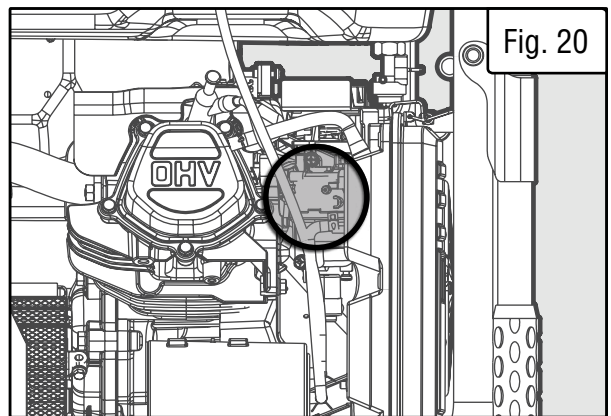

Fig. 20
2. The carburetor can be accessed from the backside of the generator between the engine and air filter. To drain the carburetor, open up the carburetor drain screw (Fig. 20) with a Phillips-head screwdriver and drain out any gasoline that has built up inside.